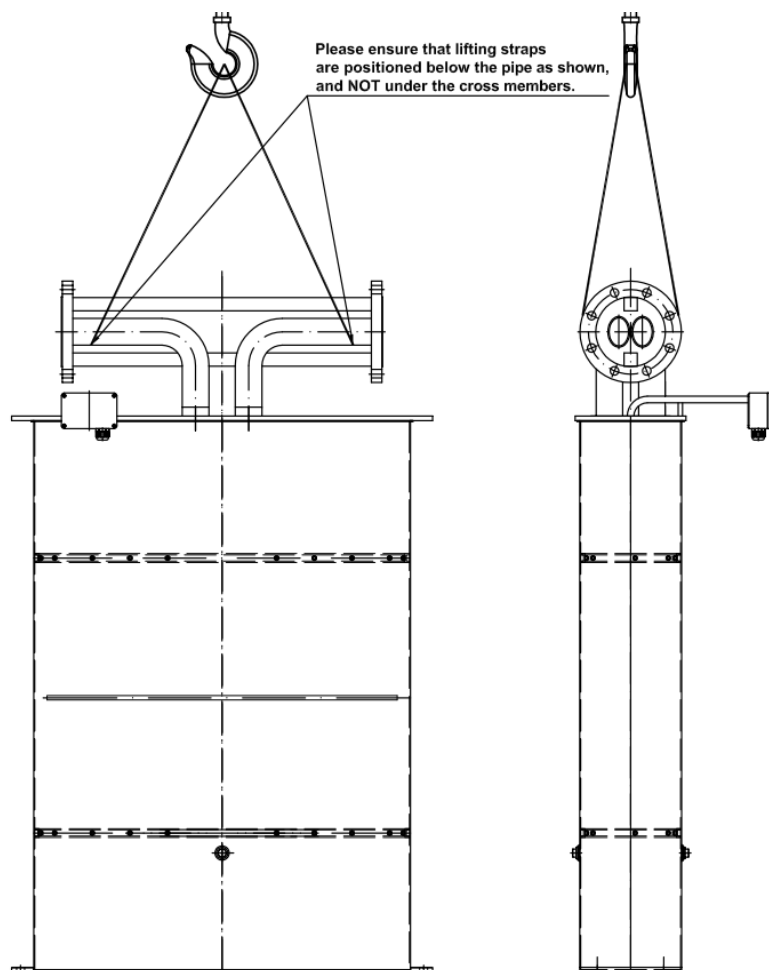

Figure 1: Lifting a RHM30/40/60/160 sensor for liquid application installations
- Lift sensors as shown in Figures 1 to 4.